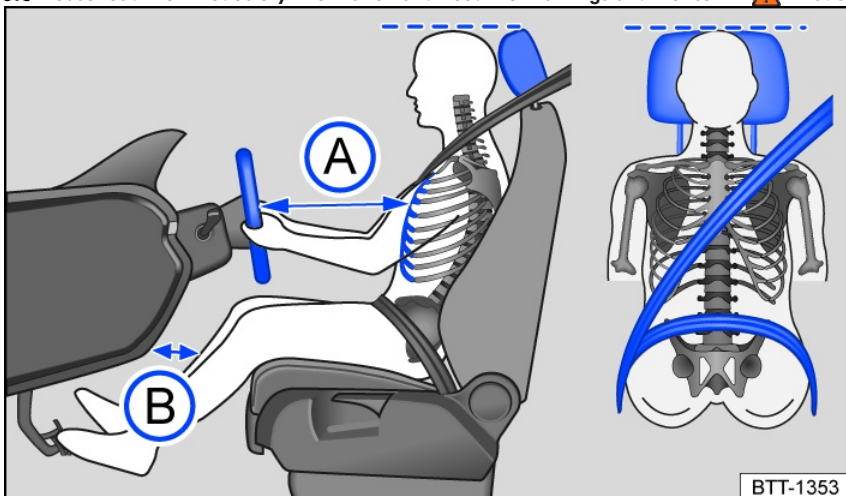

Fig. 21 General example: correct distance between the driver and steering wheel, correct safety belt routing, and correct head restraint adjustment.
- Adjust the head restraint so that the upper edge of the head restraint is in line with the upper portion of the head as much as possible, but not lower than eye level. Position the back of the head as close as possible to the head restraint *fig. 21*.
- Adjust the steering wheel so that the distance between the steering wheel and your chest is at least 25 cm (around 10 inches) *fig. 21* and you can hold the steering wheel firmly at the sides with both hands and your elbows slightly bent.
- Adjust the forward/back position of the driver seat so that you can press the pedals while your legs are slightly bent and there is at least 10 cm (around 4 inches) of space between the instrument panel and your knees *fig. 21*.